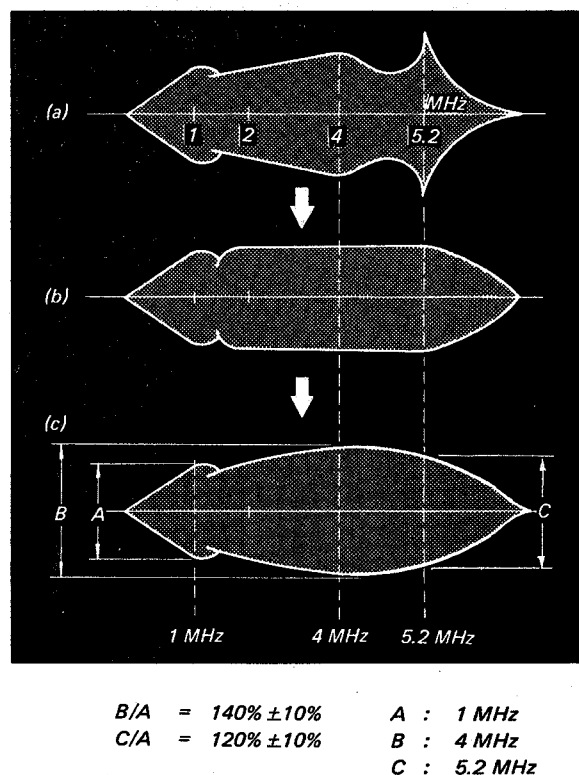

Fig. 6-3. Playback RF sweep waveform
3. Set R283 (resonance gain) fully clockwise. Set R285 (resonance gain) fully counterclockwise. Adjust C237 (CH-A) and C290 (CH-B) for a resonant frequency of 5.2 MHz. See Fig. 6-3 (a).
4. Adjust R283 and R285 for the correct playback rf envelope as shown in Fig. 6-3 (b).
5. Set R293 (equalizer gain) fully clockwise Adjust L205 for equalize frequency of 4 MHz. See Fig. 6-3 (a) adjust R283, R285 and R293 for flat rf envelope as shown in Fig. 6-3 (b).